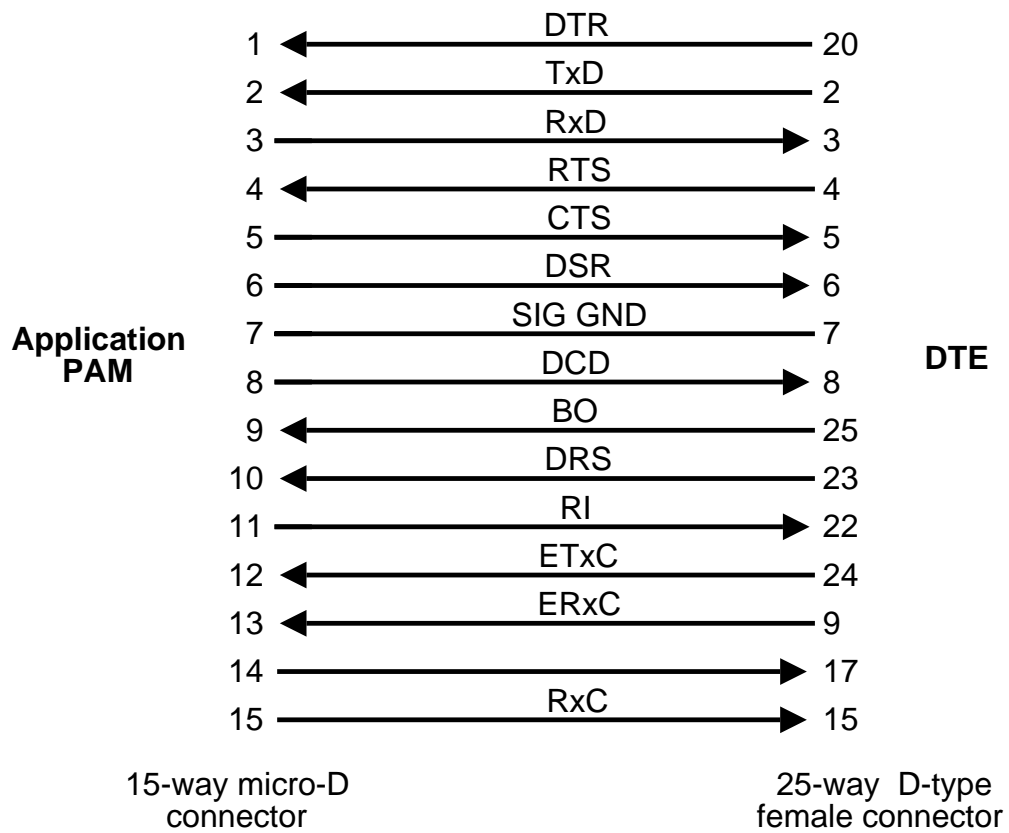

Figure B-2 Micro-D to V.24 DTE cable
- (1) Application Module to DTE (e.g. terminal). Use cable X890-409911, Figure B-2.